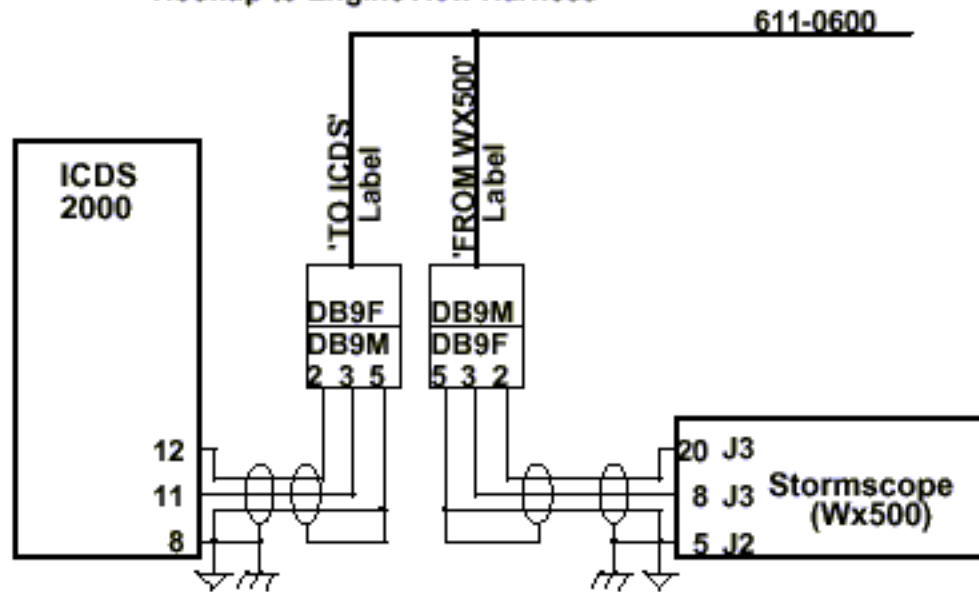

Figure 10.2.3
6. Plug the new male DB9 connector now coming from the ICDS 2000 into the 611-0600 harness segment DB9 labeled 'To ICDS Com 2' (Refer to **Figure 10.2.3**)
7. Plug the new female DB9 connector now coming from the Stormscope into the 611-0600 harness segment DB9 labeled 'From Wx500'. (Refer to **Figure 10.2.3**)